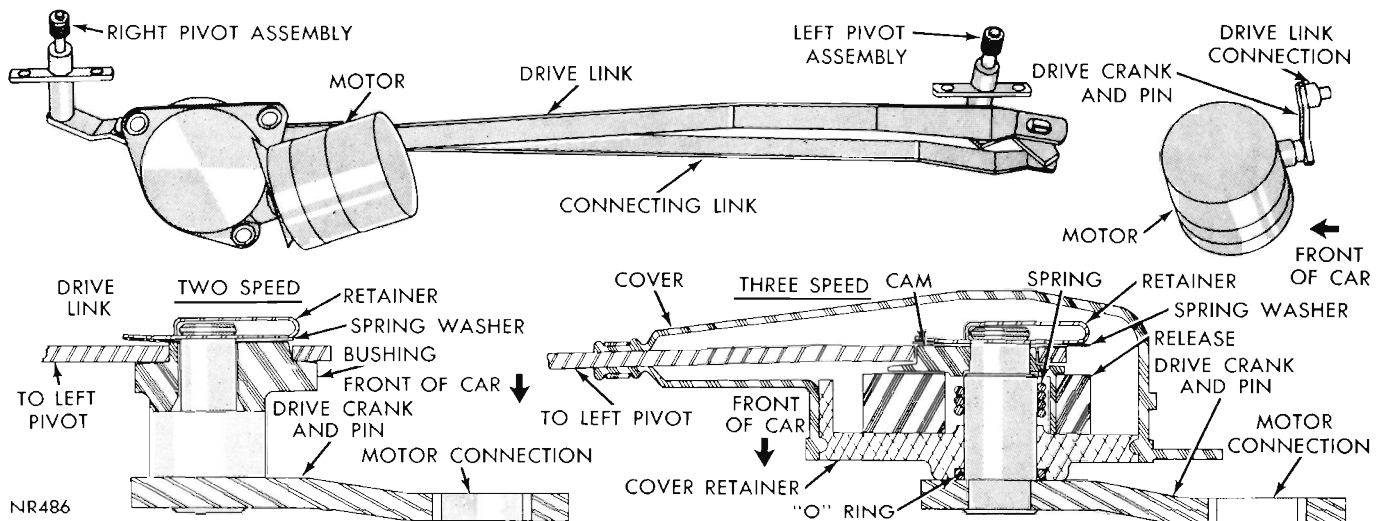

Fig. 7—Wiper System Fury and V.I.P. Models
(5) Remove links and left pivot through cowl grille panel opening. The linkage can be serviced on bench after links are removed from the vehicle. (Refer to Figures 7 and 8).